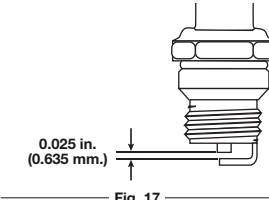

Fig. 17
4. Replace cracked, fouled or dirty spark plug. Set the air gap at **0.025 in. (0.635 mm)** using a feeler gauge (Fig. 17).